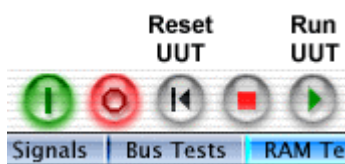

Fig. 11 – Reset and Run UUT toolbar buttons
2.4.5. By running the UUT’s boot ROM BIOS. Using the buttons on the μ Master toolbar (fig. 11), reset the UUT and then run (boot) it so that the BIOS initialises